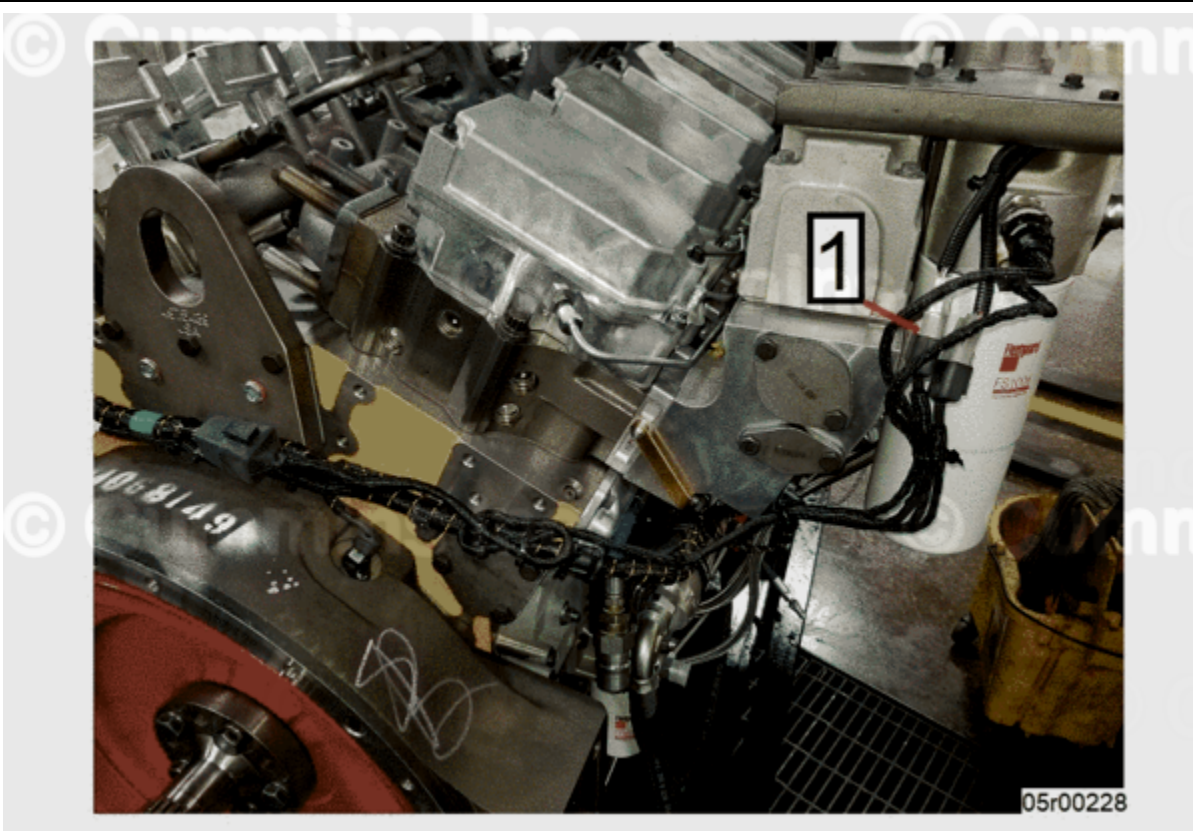

Figure 3, Wiring Harness Extension Connected.
6. Add and connect wiring harness extension to relay harness pigtail connectors (Figure 3, Item 1) and fuel filter head assembly connectors.